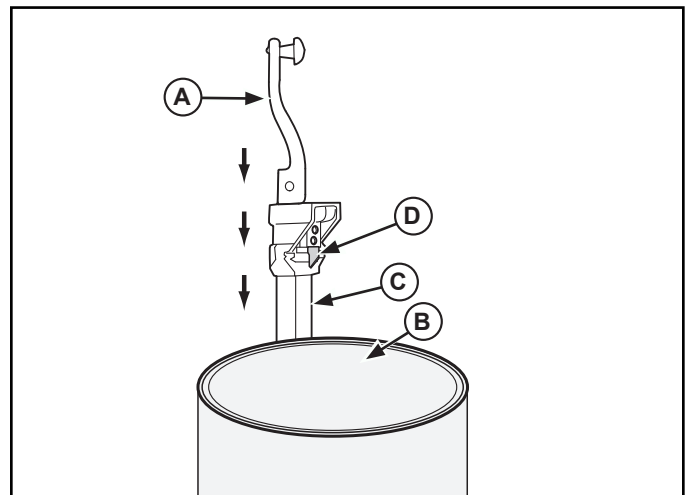

Figure 3. Punching the Blade into the Can.
3. Move the handle (A) to the UP position as shown. Place the can (B) against the bar (C). Using a swift downwards movement, punch the blade (D) into the can lid. See Figure 3.